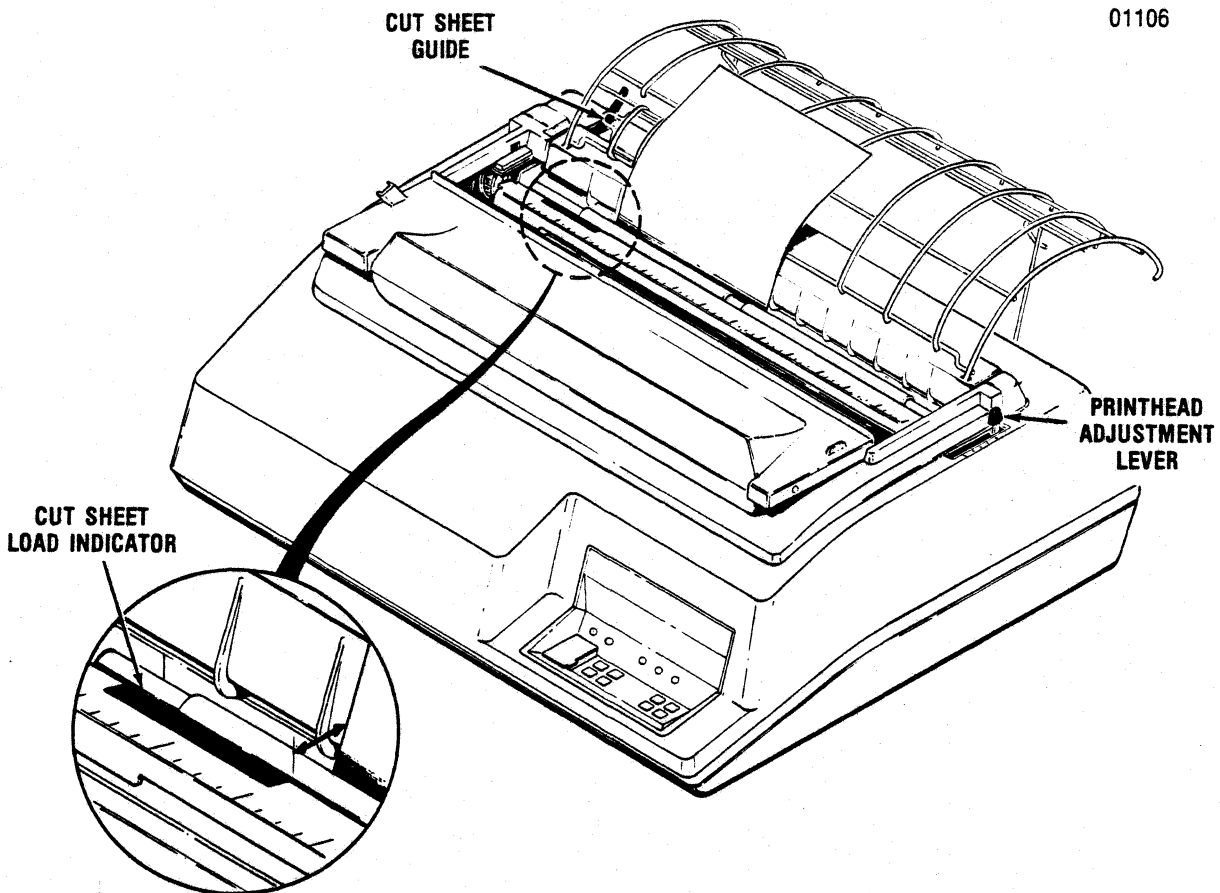

Figure 3-4 Loading Cut Sheet Forms
The printer is designed to allow semi-automatic insertion of cut sheet forms and documents. The following procedure describes the first time loading of either single or multi-part cut sheet forms once the printer is installed. Refer to Figure 3-4 and perform the following steps:
7. Slide the cut sheet form left or right until the left edge of the form aligns with the right edge of the cut sheet load indicator (see Fig. 3-4).
To insert additional forms refer to Figure 3-4 and perform the following steps: